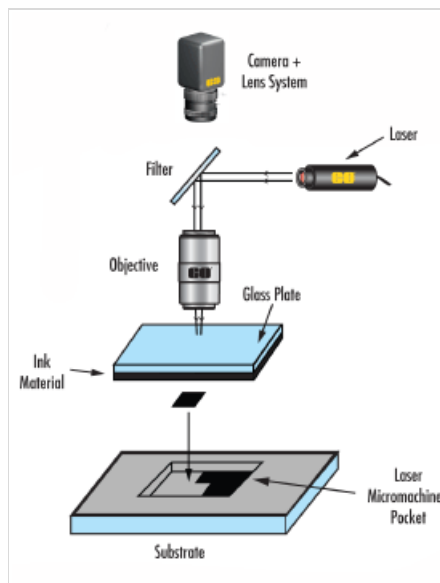

Figure 14: Typical Laser Ablation Setup [View Larger Image]
Two common uses of lasers are to (1) heat material onto a base or (2) to ablate material off of a base. Laser ablation systems require microscope components because of the precision beam manipulation (i.e. focusing, bending, scattering reduction, etc) required. A laser ablation setup typically contains custom optics, rather than off-the-shelf components, with the laser precisely designed into the system (Figure 14). The laser is oriented in an epi-illumination design to utilize the microscope objective's ability to focus light at the object plane, and to produce extremely small spot sizes with minimal aberrations. Also, an eyepiece allows the user to see where the laser is located and to make sure everything is working properly. Filters are necessary to block the laser from causing damage to the user's eye. Laser ablation setups are used in medical and biological applications because they offer higher precision than conventional surgical methods.